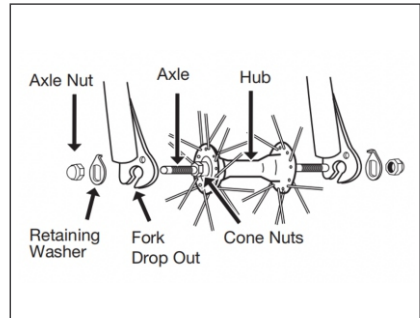

Figure 4
- Install axle nut and securely tighten. Ensure the wheel is centered between the fork blades (Figure 4).